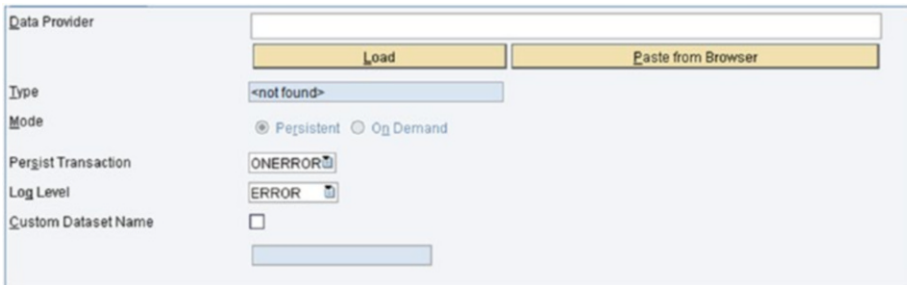

Figure 7-3. Defining a Data Provider
1. To define the Data Provider, click on the Load button, as shown in Figure 7-3.